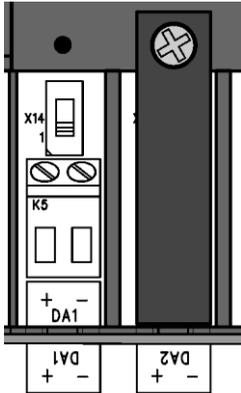

Fig. 11
1. Remove the terminal cover for the digital outputs (terminals DA1 and / or DA2) (Fig. 11).
2. Connect the downstream device to the corresponding digital outputs (terminals DA1 to DA2) of the DL230 (Fig. 11).